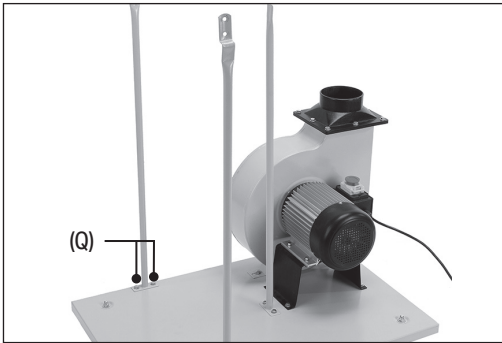

Fig. 6
6. Attach the lower supports to the base plate (Fig. 6):
- a. With the vertical bracket curving inwards, pass two M8 x 16mm bolts (Q) each through a washer (S) and through the perpendicular bracket of a lower support rod (K).